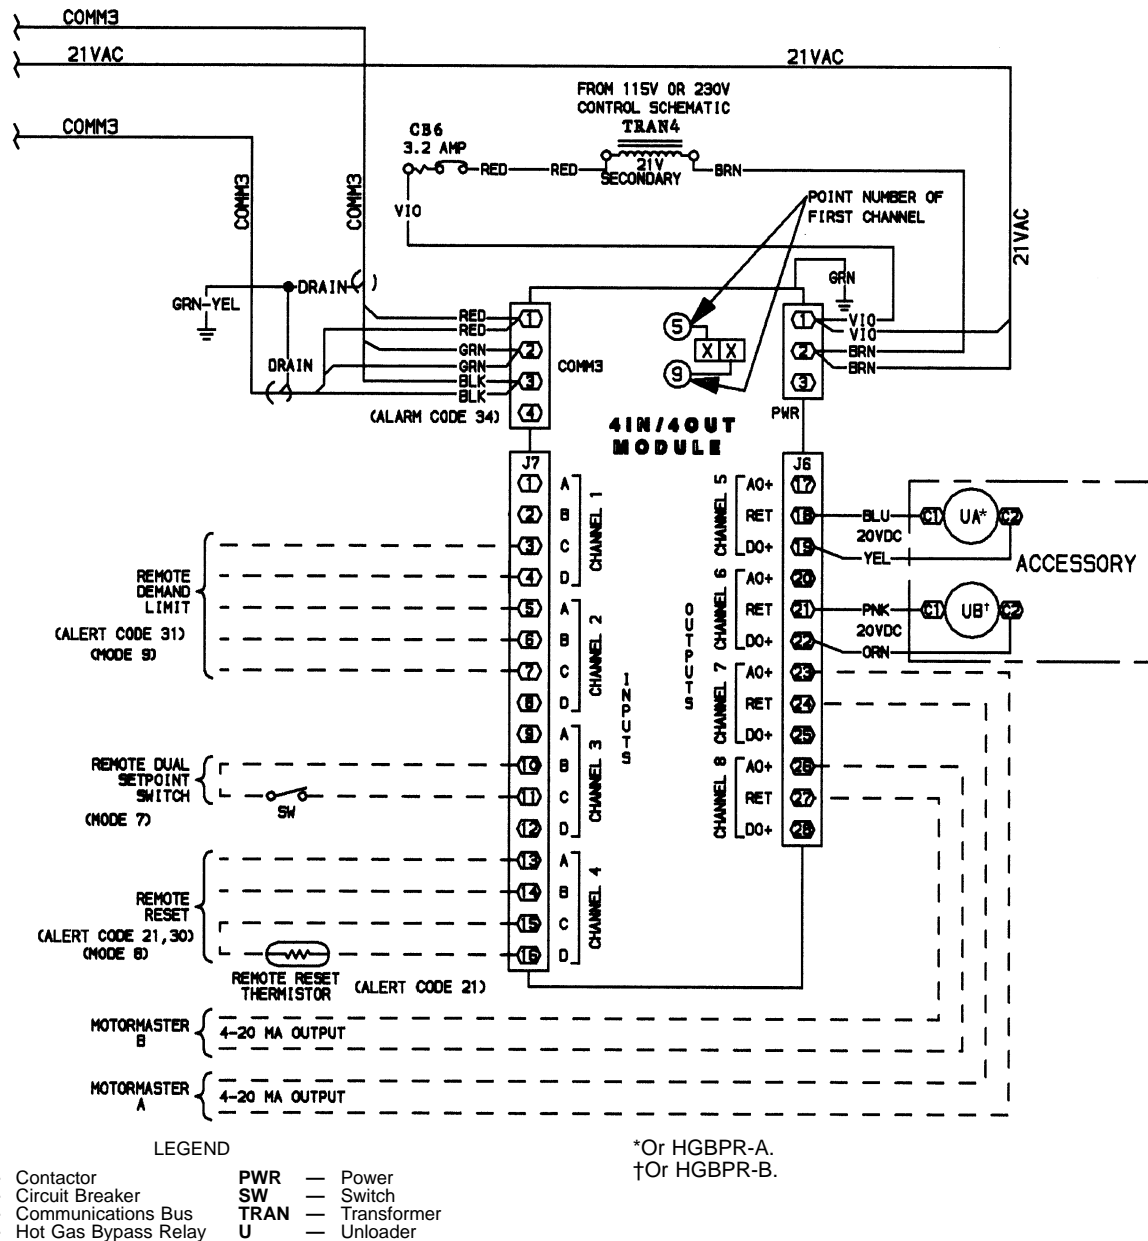

Fig. 23 — Accessory Unloader Control Wiring, All Units
Wire the primary side of the transformer in parallel with TRAN4. See Fig. 23. This supplies transformer with proper line voltage. Be sure to connect proper tap of the transformer to ensure supply of proper secondary voltage.
1. Install control wiring. The minimum wire size for installation is 16 AWG (American Wire Gage). Refer to Fig. 23 and 24 for proper wiring. Open the control box door. Locate unloader relays A and B (UA, UB) in place of the hot gas bypass relays as shown on the component arrangement diagram on the unit. Mount the relays with the field-supplied screws. Be careful not to damage the components and wiring in the area when mounting the relays.